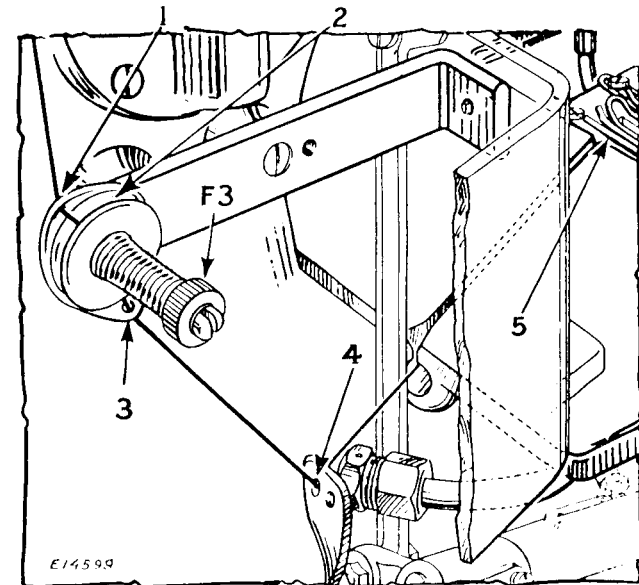
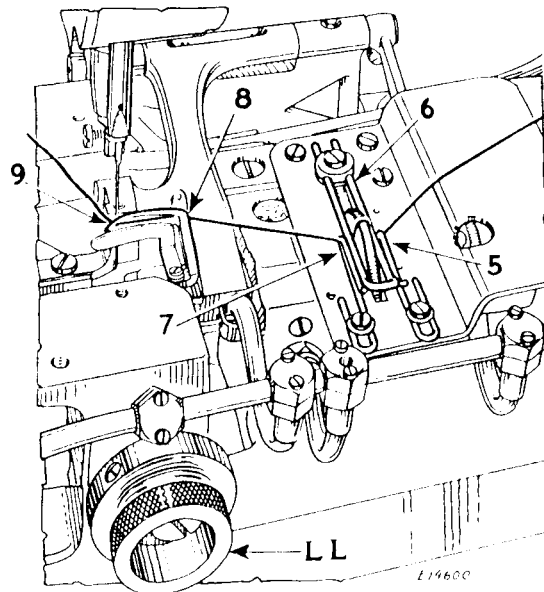
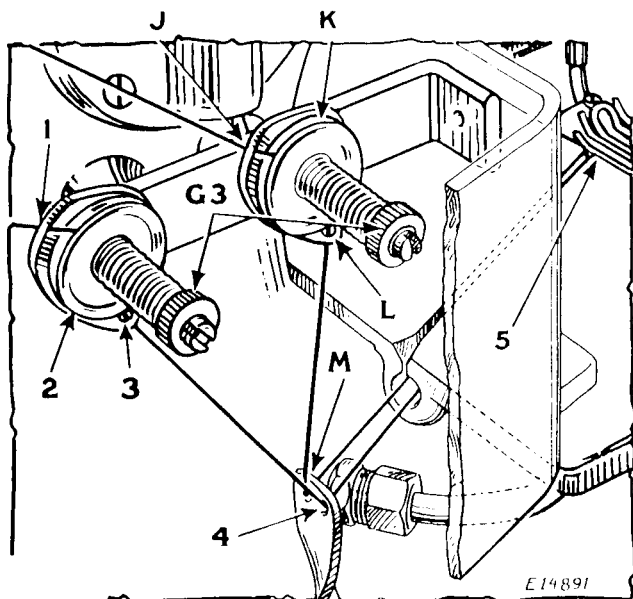

Fig. 6. Threading the Loper on Machine 147-88
Fig. 7. Threading the Looper on Machine 147-83
Fig. 9. Threading the Loopers on Machines 147-110 and 147-111
(See Figs. 6 and 7)
Remove the right hand slide plate; turn the balance wheel over from you until the needle bar is at its lowest position, then turn the knob (LL, Fig. 7, page 12) to the left as far as it will go, thus placing the looper in "throw-out" position for convenient threading.
Pass the thread from the unwinder through the eyelet (1, Fig. 6) in the thread tension guide at the rear side of the machine, over between tension discs (2), through the eyelet (3) in the tension thread guide, and down through eyelet (4) in the thread guide at the rear side of the machine. Pass the thread through the hole in the cloth plate guard and through the slot in the cloth plate. Then pass the thread through eyelet (5, Fig. 7, page 12), under the stripper (6), through the eyelet (7), through the
Allow about two inches of thread to hang from the eye of the looper with which to commence sewing, and turn the knob (LL, Fig. 7) back into sewing position.
(See Figs. 9 and 10)
of the thumb nut (F3, Fig. 6, page 11), and on Machines 147-110 and 147-111 by means of the two thumb nuts (G3, Fig. 9, page 14). For more tension turn these thumb nuts inward, toward the machine, or turn these thumb nuts outward, away from the machine, for less looper thread tension. The tension on the looper threads should be very light.